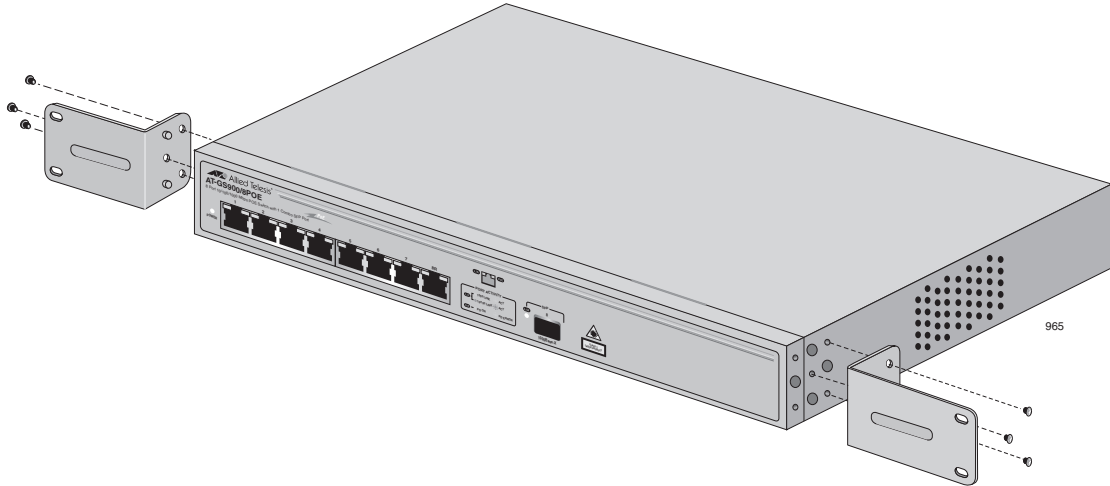

Figure 8. Attaching the Mounting Brackets
2. Attach a mounting bracket (provided) to each side of the switch using the bracket mounting screws (provided), as shown Figure 8.